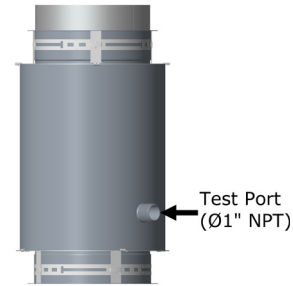

Figure 74 - Nozzle Length (NL)
**NOZZLE LENGTH (NL)**
The Nozzle Length NL is used when there is a need for test port. Same size as the Drain Length (DL). See Figure 74.